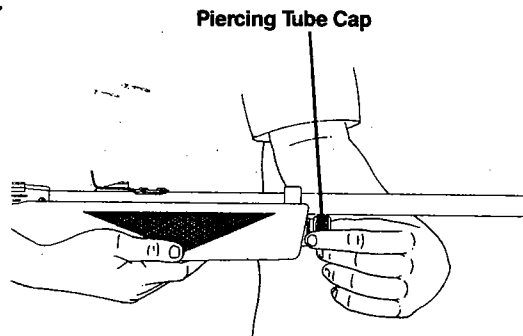

Fig. 2
- Holding the rifle by the forend, slowly turn the piercing tube cap allowing the release of the remaining CO2 before removing the cap. (Fig. 2)